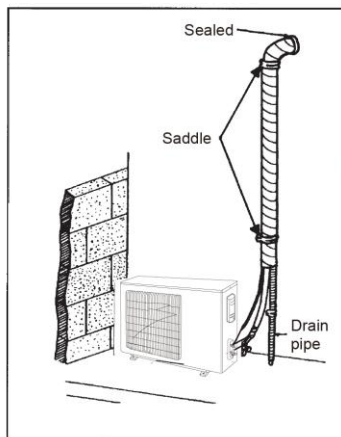

Fig. 15
- (1). If the outdoor unit is installed lower than the indoor unit. (See Fig. 15)